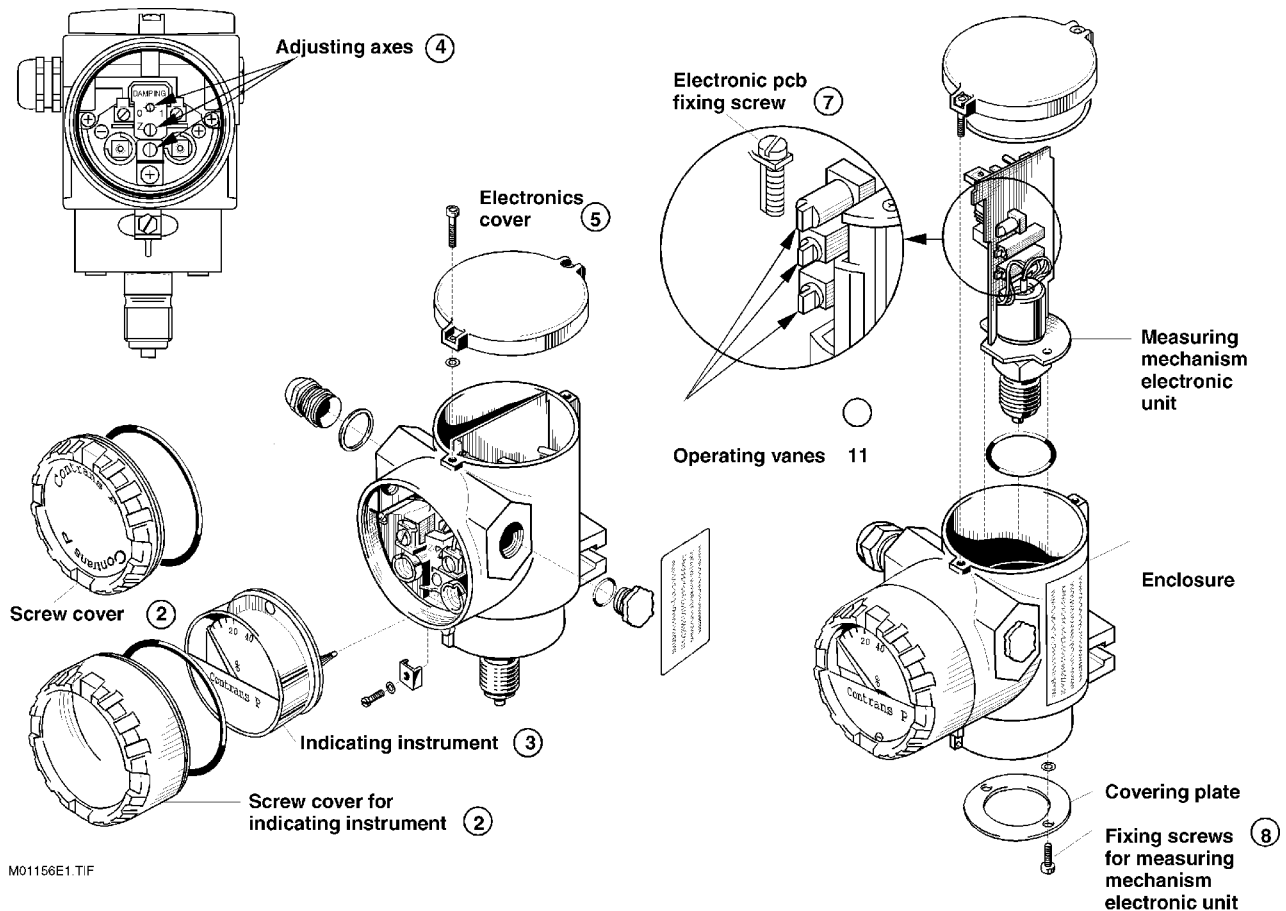

Fig. 17. Exploded view e.g. AMD 210
Removing (see Fig. 17)
3. Place the slots of the **adjusting axes** for the S, Z and DAMPING potentiometers, as shown in Fig. 17, into a vertical position.
Fitting (see Fig. 17)
2. If it is necessary to change the position then, with the power supply switched off, unscrew the electronics cover (Fig. 17).
4. Unscrew the screw cover and, if fitted, pull out the indicating instrument (Fig. 17).